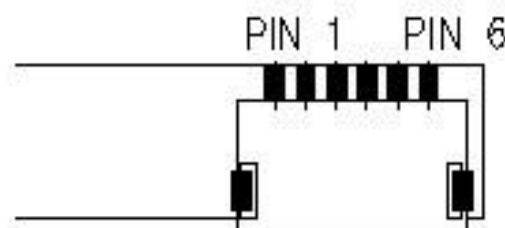
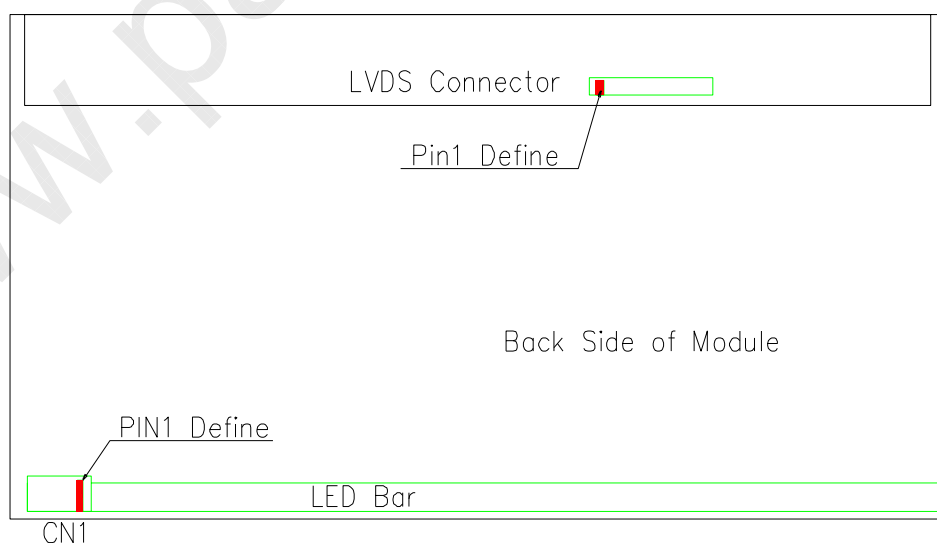

Figure1. Top View of LED Bar Connector
Figure2. Back Side of Module
Note : 1. Viewing angle is the angle at which the contrast ratio is greater than 10. The viewing are determined for the horizontal or 3, 9 o'clock direction and the vertical or 6, 12 o'clock direction with respect to the optical axis which is normal to the LCD surface. 2. Contrast measurements shall be made at viewing angle of $\theta= 0^{\circ}$ and at the center of the LCD surface. Luminance shall be measured with all pixels in the view field set first to white, then to the dark (black) state. (See FIGURE 1 shown in Appendix) Luminance Contrast Ratio (CR) is defined mathematically. $CR = \frac{\text{Luminance when displaying a white raster}}{\text{Luminance when displaying a black raster}}$ 3. Center Luminance of white is defined as the LCD surface. Luminance shall be measured with all pixels in the view field set first to white. This measurement shall be taken at the locations shown in FIGURE 2 for a total of the measurements per display. 4. The White luminance uniformity on LCD surface is then expressed as : $\Delta Y = (\text{Minimum Luminance of 9points} / \text{Maximum Luminance of 9points}) * 100$ (See FIGURE 2 shown in Appendix). 5. The color chromaticity coordinates specified in Table 4. shall be calculated from the spectral data measured with all pixels first in red, green, blue and white. Measurements shall be made at the center of the panel. 6. The electro-optical response time measurements shall be made as FIGURE 3 shown in Appendix by switching the “data” input signal ON and OFF. The times needed for the luminance to change from 10% to 90% is Td, and 90% to 10% is Tr. 7. Cross-Talk of one area of the LCD surface by another shall be measured by comparing the luminance (Y_A) of a 25mm diameter area, with all display pixels set to a gray level, to the luminance (Y_B) of that same area when any adjacent area is driven dark. (See FIGURE 4 shown in Appendix).